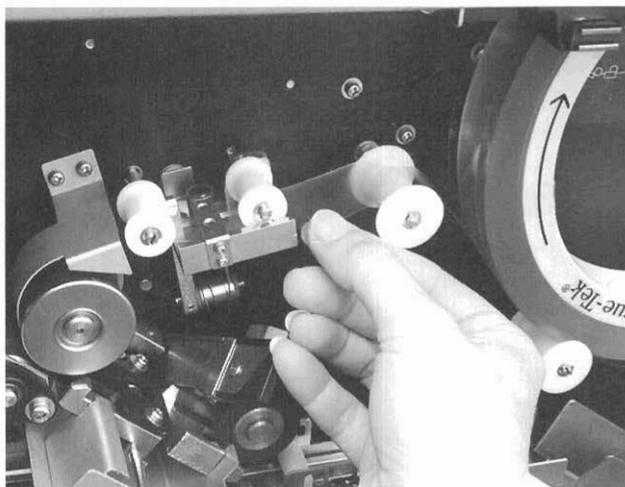

Figure 4-2
- b. Draw out the end of the film, laying it across the upper side of the first (large) guide spool, then to the underside of the two small guide spools, through the film guide, and then around the curve of the large film advance roller (Figure 4-2).